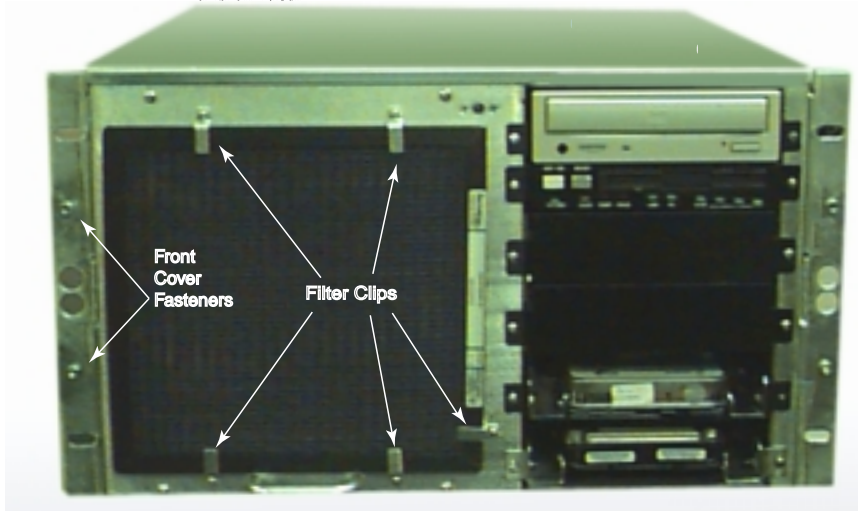

Figure 5-17. Duet With Main Filter In Place
- [] 1. Refer to **Figure 5-17**, and note the five clips holding the filter to the Duet chassis at top, lower right and bottom. The filter should move easily, but if you wish, you may loosen the clips slightly.